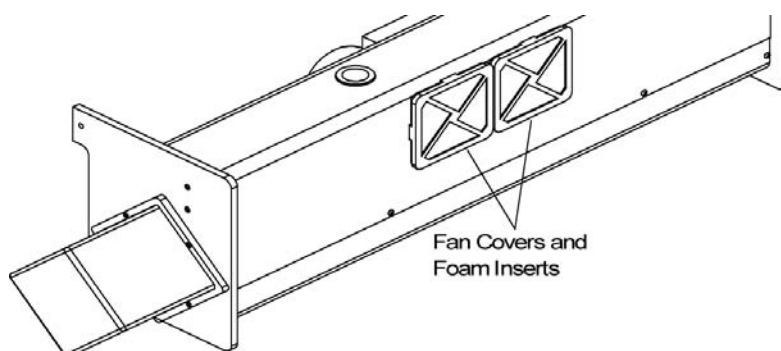

Figure 8-4
The Nephelometer circuitry is cooled by a fan, which has two fan filters located on the outside of the Nephelometer (Figure 8-4). Running the fan with clogged filters can significantly reduce the life of the lamp.
1. Snap off the fan covers and remove the open-cell foam inserts from the covers (Figure 8-4).